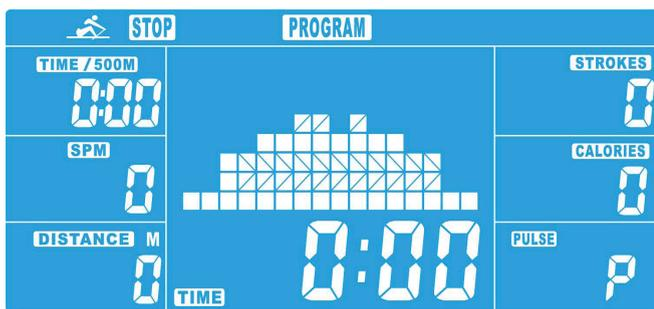

figure 4
2. Press the UP or the DOWN button to select a profile (P1-P12, fig. 4). Confirm with the ENTER button.